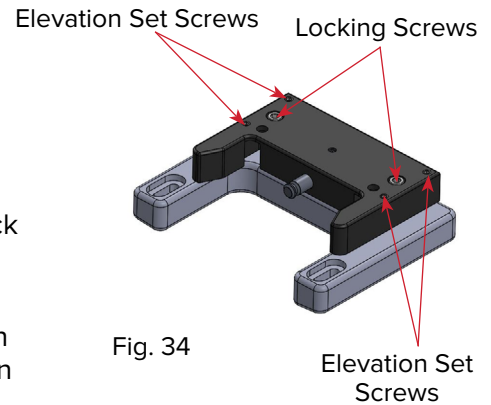

Fig. 34
- a. Begin by adjusting the height of the Foot Latch Mounting Block on the existing CT, by loosening the Locking Screws (2) ¼-20 (Fig. 34).